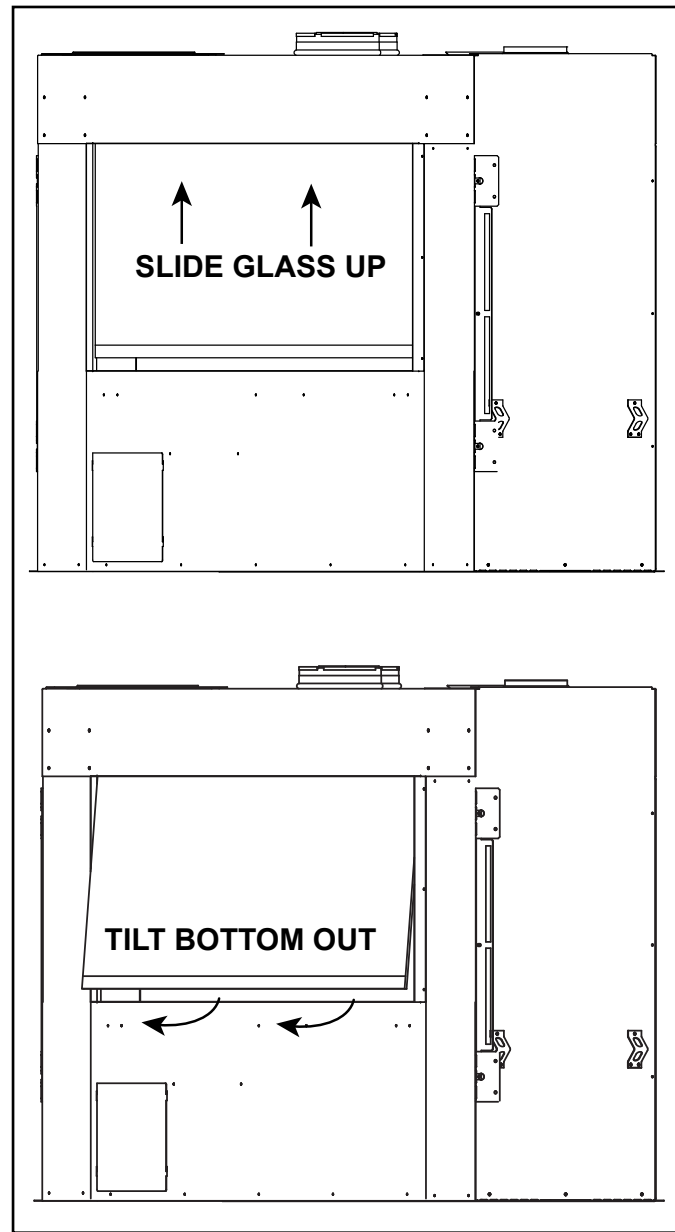

Figure 4.1 Barrier Glass Removal
3. Lift glass straight up into the top cavity, tilt the bottom out and remove glass from the appliance. See Figure 4.1.